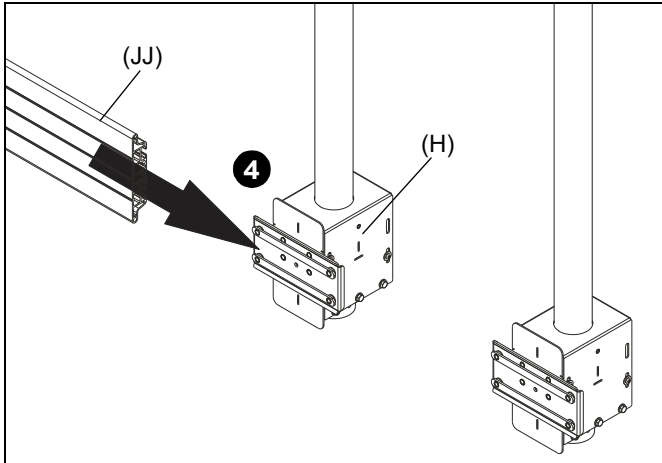

Figure 4
- Slide X-large rail (JJ) onto one of two assemblies (H) attached to column. (See Figure 4)